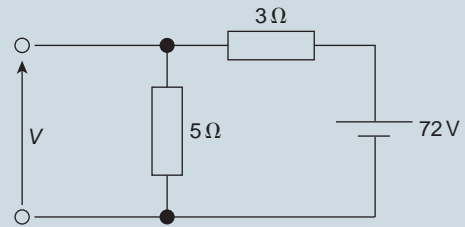

Figure 7.11
- Calculate the value of voltage V in Fig. 7.11